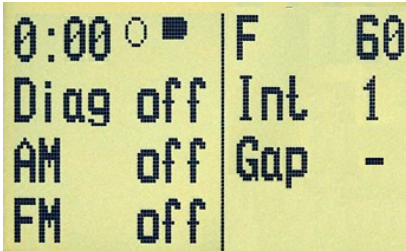
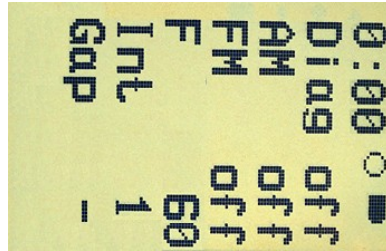

Fig. 5a
Fig. 5b
6.3 The device can display information on the screen in 3 possible directions: horizontal (Fig.5a), vertical for the right hand and vertical for the left hand (Fig.5b). This may be convenient, for example, when operating with the left and the right hands alternately. To rotate the image on the screen, press the "▲" button in the "**B**" mode or in the Diagnostics mode.